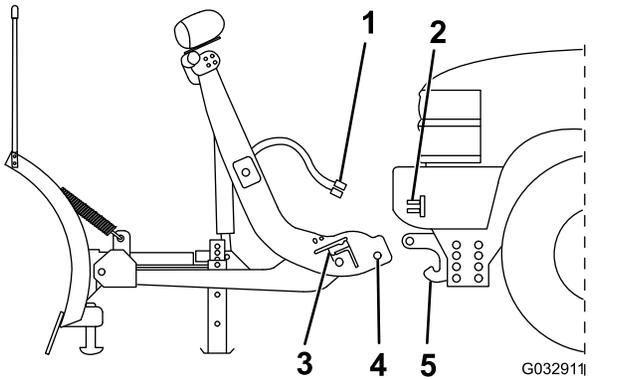

Figure 25
- Line up the vehicle with the snowplow and slowly drive forward until the lower pin contacts the push-beam pin receiver (Figure 25).
- Remove the electrical-plug dust-covers and connect the plow wire harness to the vehicle wire harness (Figure 25).